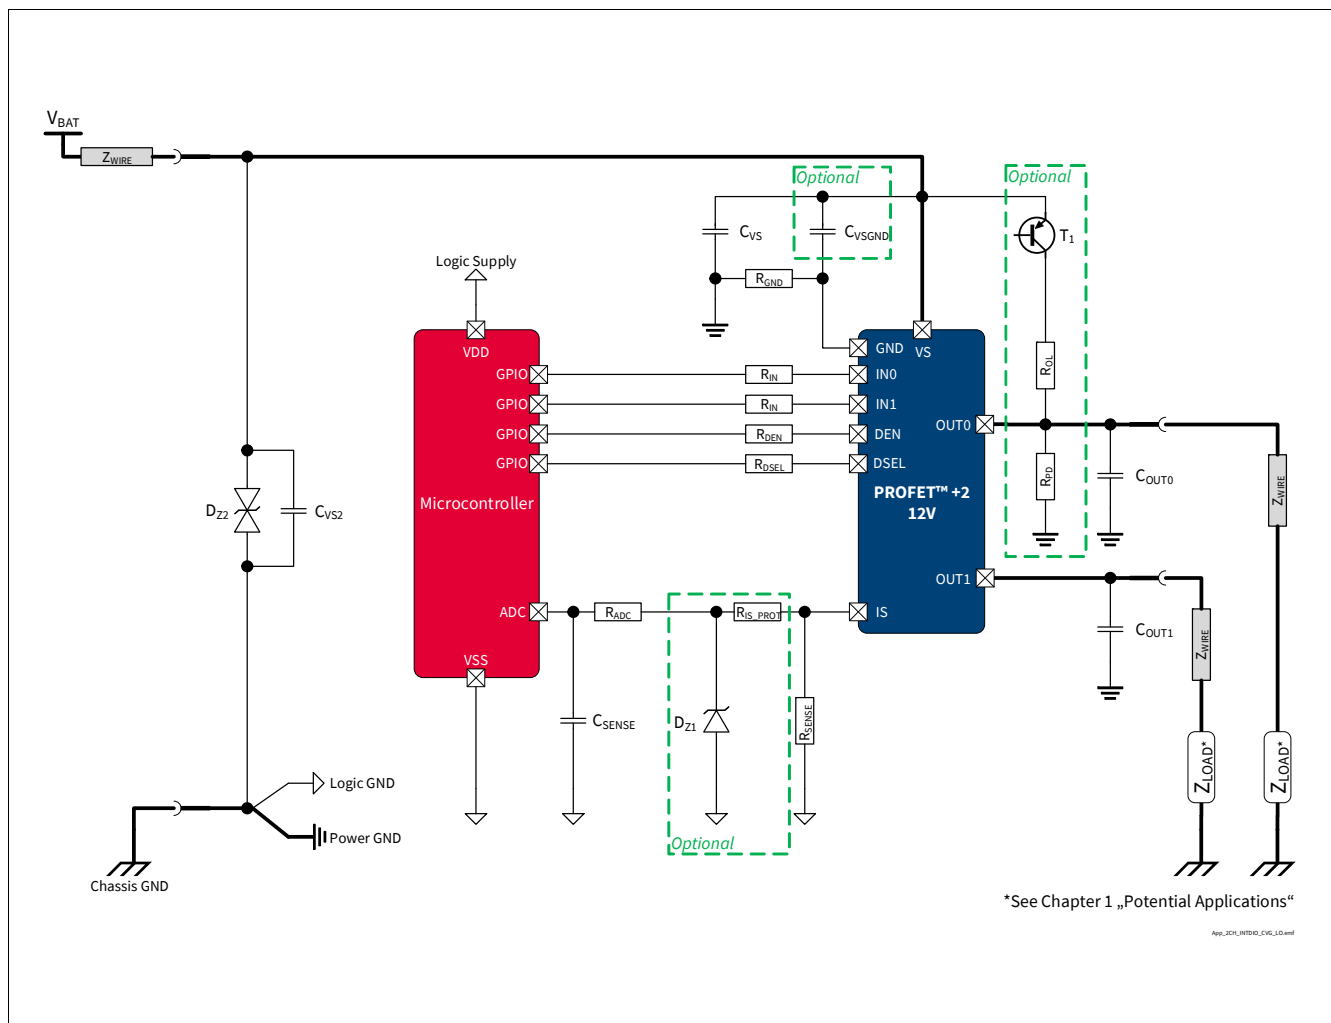

Figure 43 **BTS7080-2EPA Application Diagram**
1.05 , 2019-10-15	P_8.7.7.1, P_8.7.7.7, P_8.7.7.8 updated (added in Note or Test Condition: link to Figure 25) P_7.5.7.4, P_7.5.7.5 updated (added in Note or Test Condition: DEN = “low”; link to Figure 19) P_7.5.7.12 updated (added in Note or Test Condition: see Figure 21; deleted unnecessary space in Symbol: $dV_{OUT} / dt \rightarrow dV_{OUT} / dt$) P_8.7.7.6 updated (added in Note or Test Condition: see Figure 26) P_9.7.7.1 updated (added in Note or Test Condition: see Figure 34) P_9.7.7.5 updated (Min./Typ./Max.: -45%/1800/+45% → -28.0%/1750/+28.0%) P_9.7.7.6 updated (Min./Typ./Max.: -40%/1800/+40% → -25.5%/1750/+25.5%) P_9.7.7.8 updated (Min./Typ./Max.: -35%/1800/+35% → -23.5%/1750/+23.5%) P_9.7.7.12 updated (Min./Typ./Max.: -26%/1800/+26% → -19.0%/1750/+19.0%) P_9.7.7.15 updated (Min./Typ./Max.: -11%/1800/+11% → -9.8%/1805/+9.8%) P_9.7.7.17 updated (Min./Typ./Max.: -6%/1800/+6% → -6.0%/1805/+6.0%) P_9.7.7.19 updated (Min./Typ./Max.: -5%/1800/+5% → -4.5%/1805/+4.5%) P_7.5.7.11 updated (added in Note or Test Condition: see Figure 19) Figure 1, Figure 43 updated Chapter 1 updated (or LED equivalent → or equivalent electronic loads (e.g. LED modules)) P_4.3.0.7 added Table 24 updated Chapter 5.1 updated (added: see Chapter 10 for the complete application setup overview)